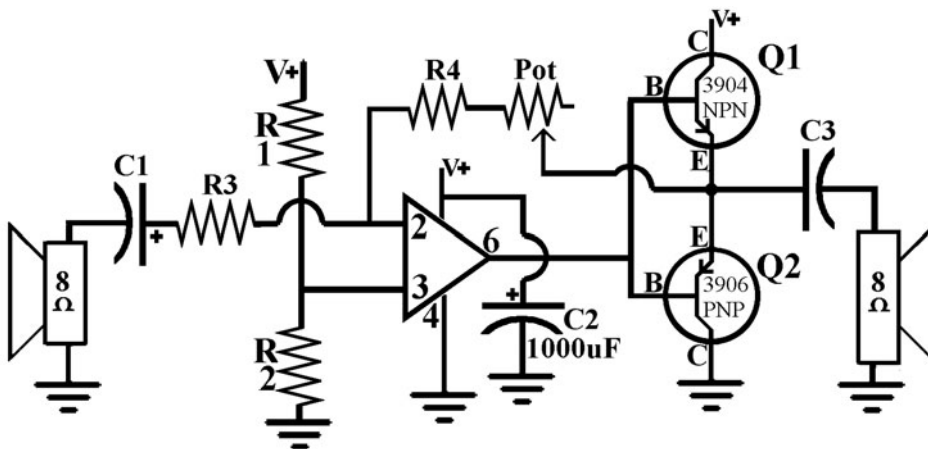

Figure L59-3
- Now set this second speaker into your SBB as shown in Figure L59-3.